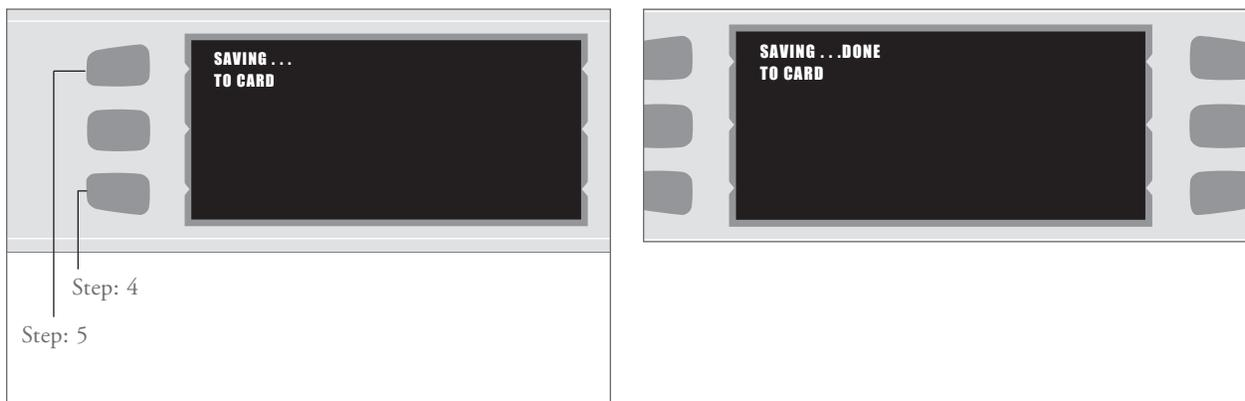

FIGURE 21: Saving to Smart Card
6. Press the “ENTER” Key to confirm or the “BACK/STOP” Key to cancel. After approximately 5 seconds, screen will display that menu has saved to the card (Figure 21, page 15).